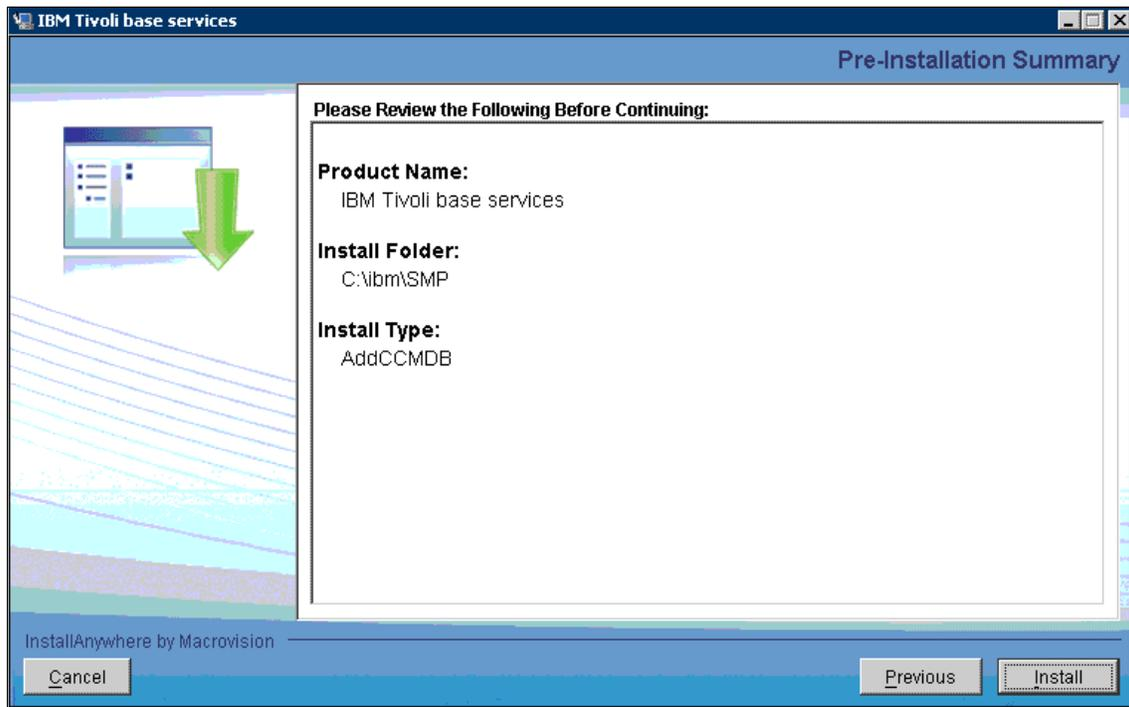

Figure 6-7 Pre-Installation Summary
13. The Pre-Installation Summary is an information window. Click **Install** and wait until the installation is finished. Refer to Figure 6-7 on page 197.